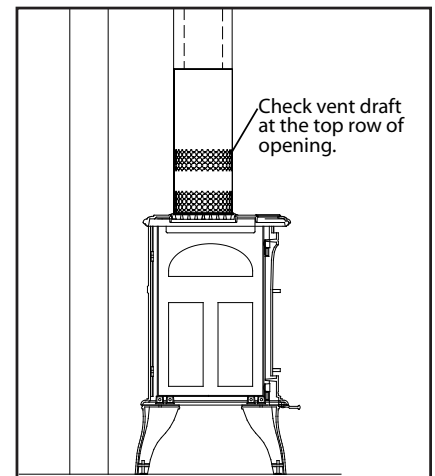

Figure 48: Draft test place.
4. After a minimum of 10 minutes operation, test the chimney draft with a smoke match at the top row of the pattern to confirm that there is adequate draft or 'pull' at the openings around the body of the Draft Hood Adaptor, as shown in Figure 48.
2. Place the log set into the firebox. Locate each log by seating it down onto the burner tray support pins. Follow Figures 48 to 54 proper log placement.